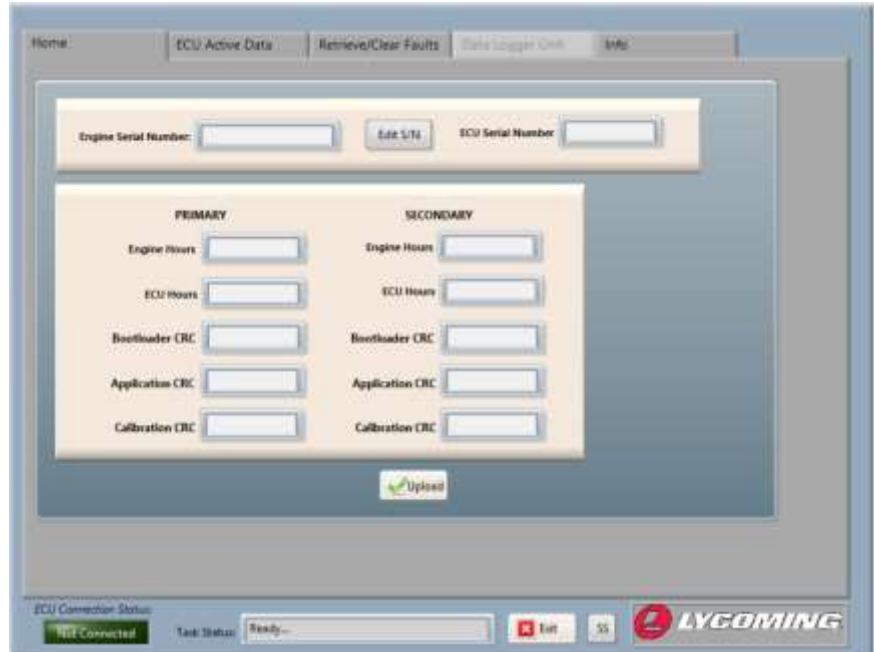

Figure C-23
3. If the “ECU Connection Status” indicator in the lower left corner of the screen reads “Not Connected” (Figure C-23):